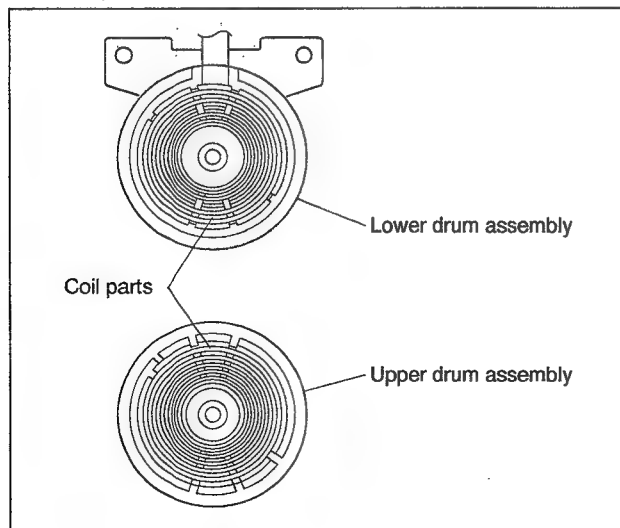

Fig. 2-2-40
- (1) Clean coil parts of the lower drum assembly and the newly installed upper drum assembly with an air brush in advance. (See Fig.2-2-40).